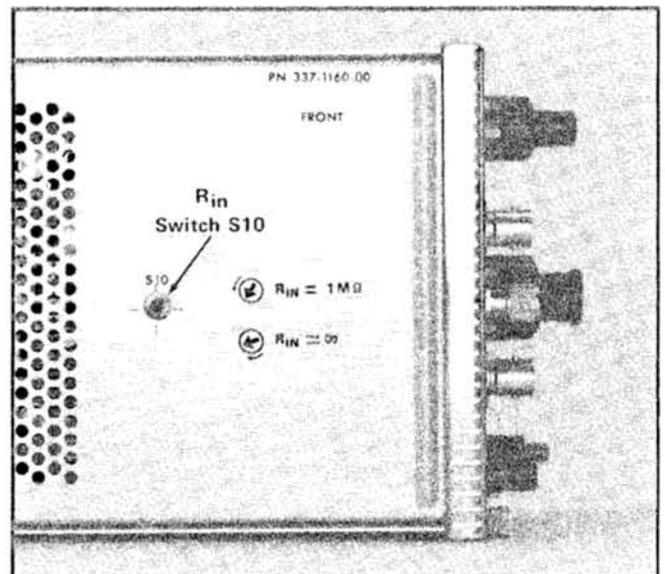

Fig. 5-1. Location of the R_{in} switch S10 on the Attenuator board.
1. Set the 7A13 R_{in} switch, S10 (see Fig. 5-1), to the $R_{in} = 1\text{ M}\Omega$ (counterclockwise) position.
| R_{in} (internal switch, S10, see Fig. 5-1) | $R_{in} = 1 M\Omega$ (see Preliminary Procedure, step 1) |